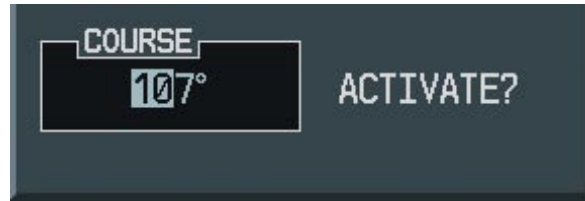

Figure 5-28 Entering a Direct-to Course
- 3) Enter the desired course (Figure 5-28).